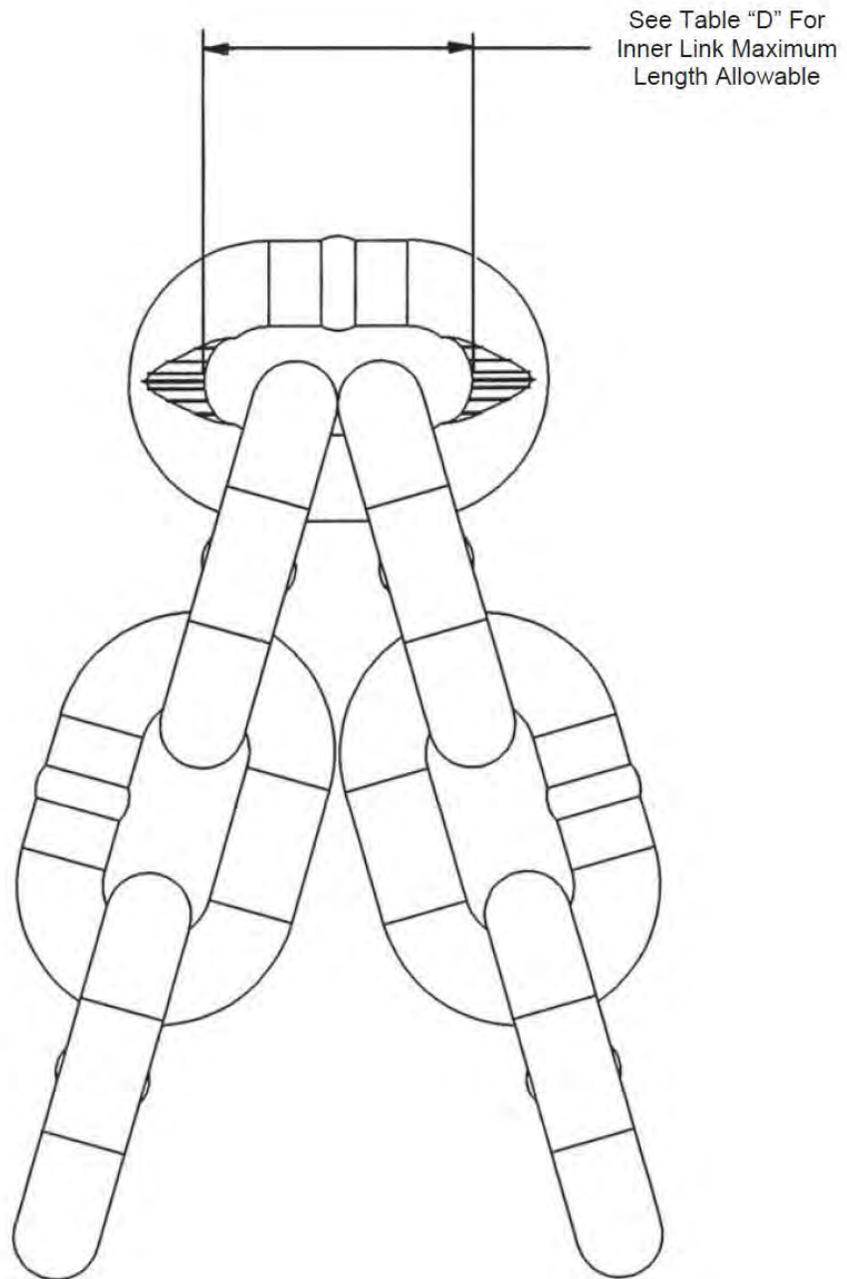

Figure 1 – Chain Link Gages
1) Normal Service: The overall length of chain shown in Table “B” should be measured in chain that travels over the sprocket wheel in normal use. This measures the outside to outside length of chain when approximately a 50-lb. Load is applied to the chain, see Figure 1. Tool House does offer gages to make this measurement easy. The gage part numbers are shown in Table “B”.
2) Short Lift: If the duty application is a short travel distance, the chain may wear in a localized area. In this case, or if severe localized wear is observed for any other reason, the maximum allowable length over the number of links shown in Table “C” should be used as out of service criteria. These measurements can typically be made with dial calipers. The measurement method is the same as shown in Figure 1.